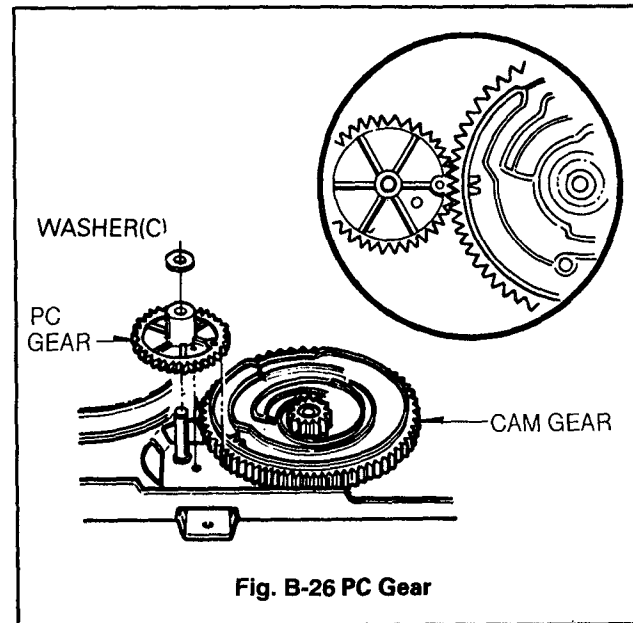

Fig. B-26 PC Gear
- ① Align the Projection of Rack Gear T with the hole of Loading Gear
- ② Drive the Rack Gear F.L in the direction of arrow(D).
- ③ Hole of Cam should be aligned with the hole of chassis, and the groove(■) of Cam Gear should be aligned with the hole of PC Gear (Fig B-26)
26. PC Gear(Fig. B-26)
- ① The Groove of PC Gear should be aligned with the groove(V) of Cam Gear, and another hole of it should be aligned with the hole of chassis (Fig B-26)